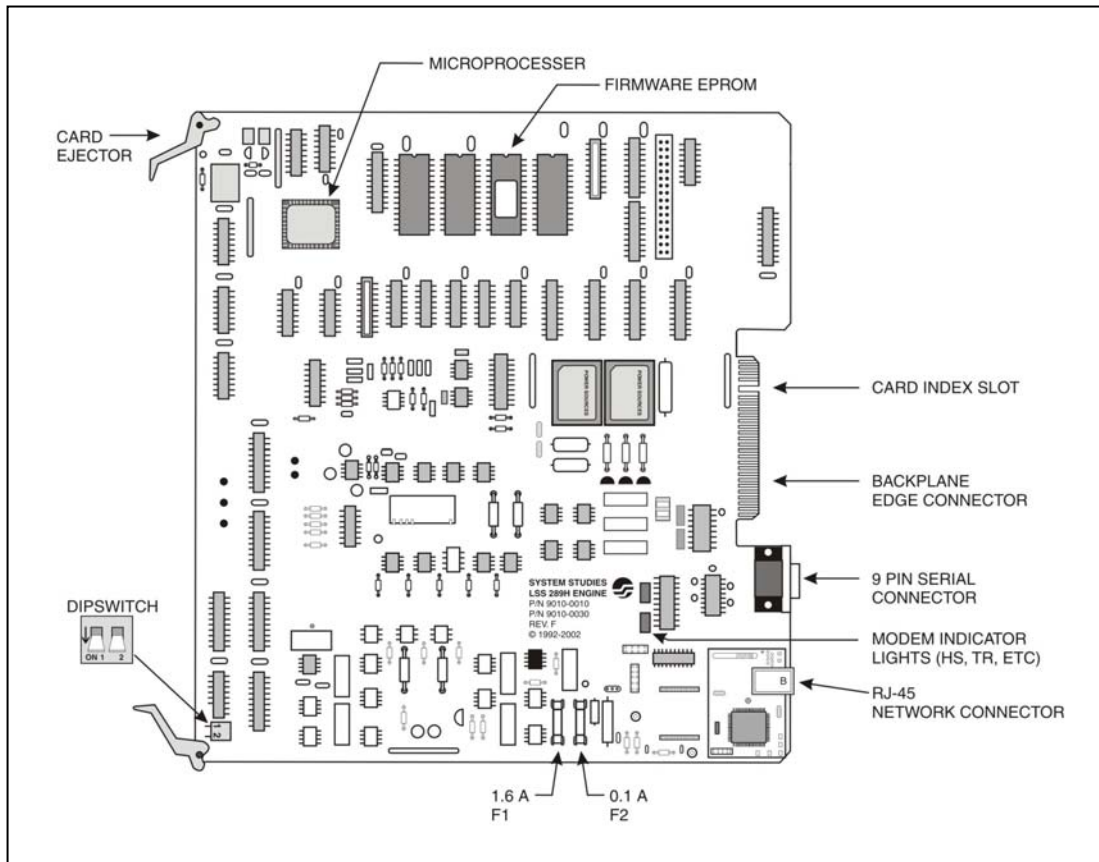

FIGURE 5-4: LAN CONTROLLER CARD (9800-0030)
2. Identify the S3 dipswitch set module that controls communication mode, located in the lower left corner of the LAN Controller card (see FIGURE 5-4).